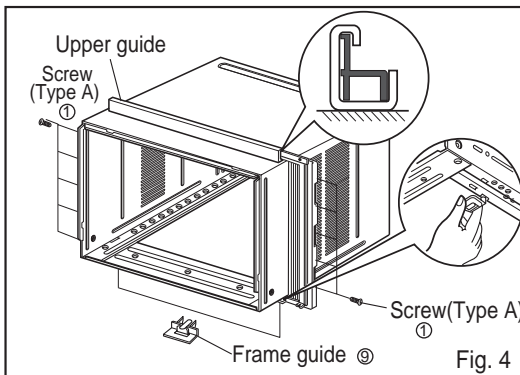

Fig. 4
4. Insert the Frame guides into the bottom of the cabinet. (Fig.4)
5. Insert the Frame Curtain into the Upper Guide and Frame Guides. (Fig.4)